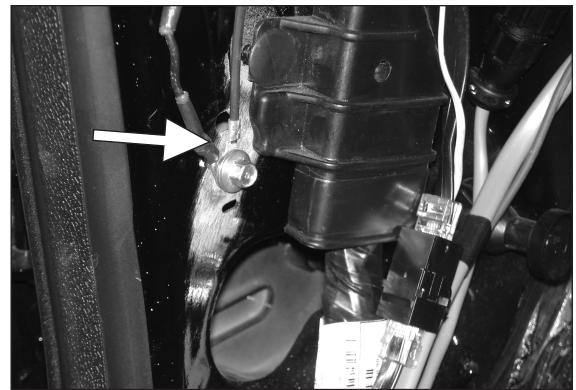

Figure 13
7. Connect the Chelsea Black wire w/ring connector (3/8") to the Ford ground screw that is located in an area that is paint free (**Fig. 13**).